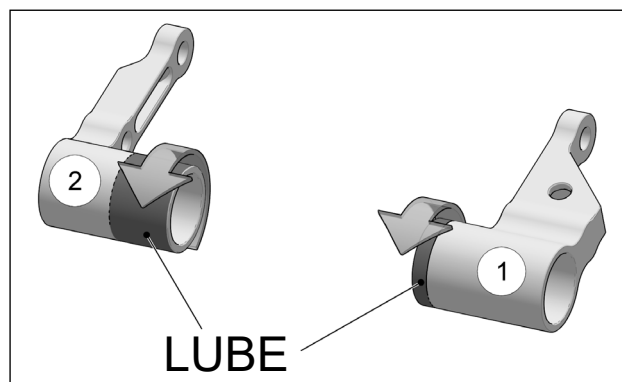

Figure 13
- Apply lube on the portion of adapters inserted in Bike Mount. Figure 13.